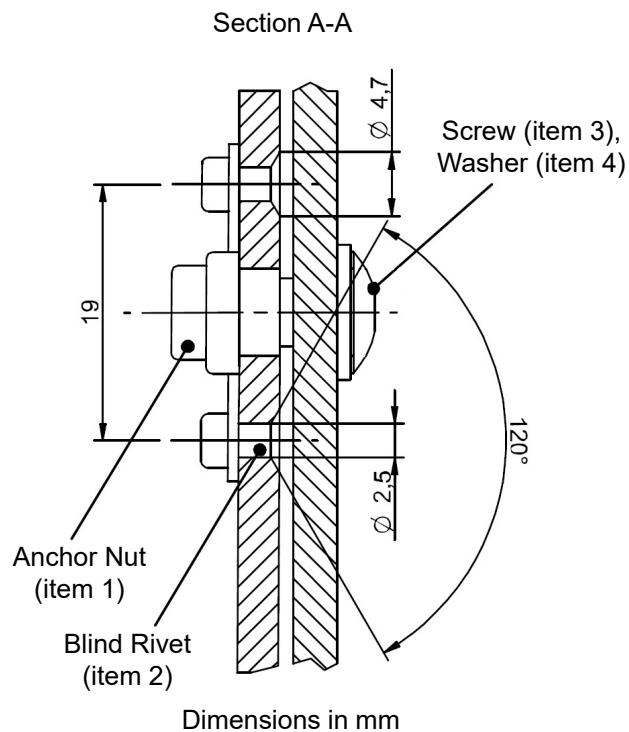

Figure 2. Anchor nut installation.
5. To install the 2 anchor nuts (item 1) at the same installation points of the rivet nuts, drill the vertical stabilizer to install the 4 blind rivets (item 2). Refer to Figure 2.
6. Install the 4 blind rivets (item 2) to attach the 2 anchor nuts (item 1) to the vertical stabilizer. Refer to Figures 2 and 3.